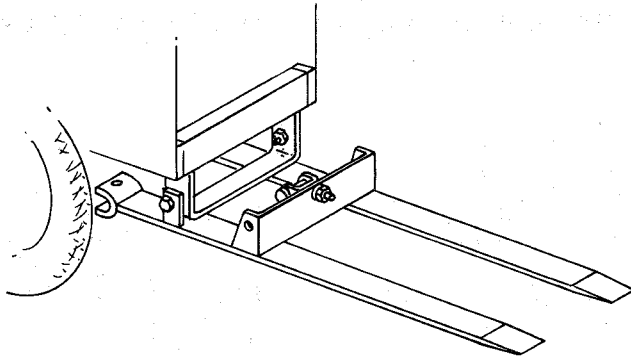

Figure 3
1. Raise the pallet handler so that the holes in the vertical lugs of each fork align with the holes in the tractor hitch bail. Secure with bolts, lock-washers and nuts. See Figure 3.